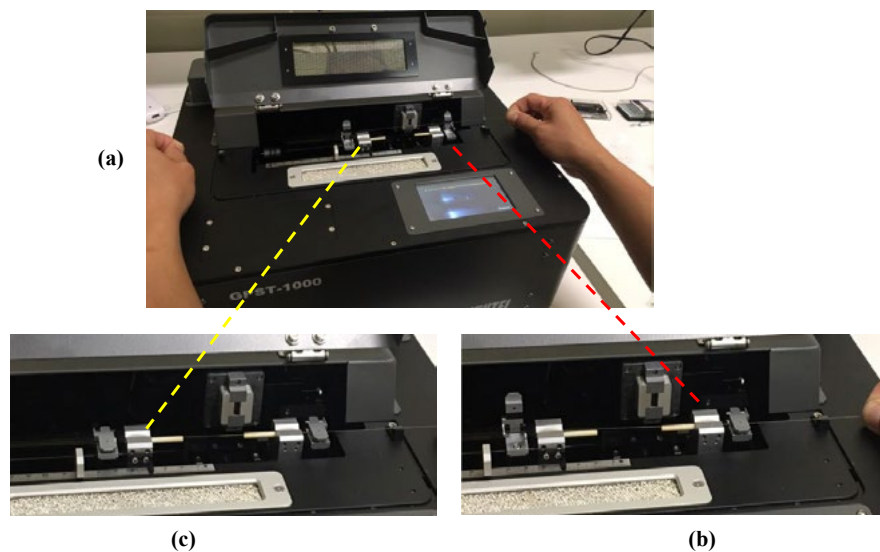

Figure 4.3.2
- (1) Open the GPST-1000 cover.
- (2) Before loading a fiber, ensure that both clamps (outside the two ceramic tubes) are opened, i.e. their covers are lifted, as shown in Fig. 4.3.2(a).
- (3) Hold the fiber straight, and ready to load the sample from the top side of the two ceramic tubes. Bring the fiber down into the tubes through their top openings.
- (4) In the meantime, press the right side fiber-tail on the 'guiding bar' of the right side clamp. The cover of the right side clamp will be pushed close, as show in Fig. 4.3.2(b).
- (5) Next, straighten the fiber and close the left side clamp cover in the same way (Figure 4.3.2(c)).